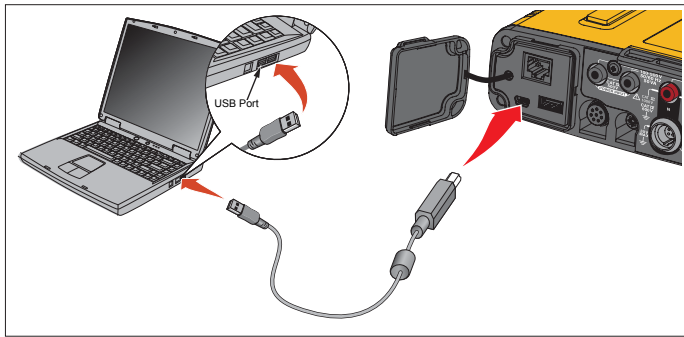

Figure 8. Power Logger to PC Connections
3. Connect the USB cable to the USB ports of the computer and the Logger. See Figure 8.
A green WiFi Hotspot LED indicates that the WiFi Hotspot is enabled. If this LED is off, connect the USB cable. See Figure 8 and go to Step 5.